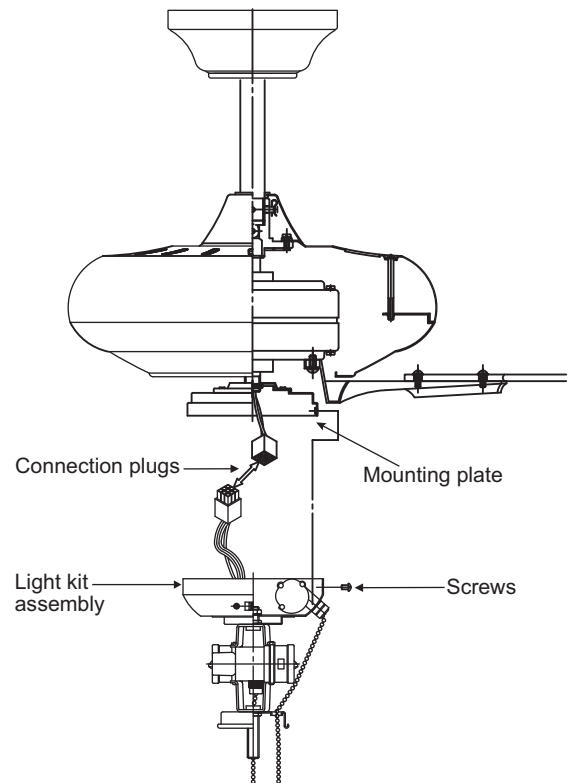

Figure 19
Step 2. While holding the light kit under your fan, snap together the wire connection plug. (Fig. 19)
Step 3. Install the light kit onto the mounting plate with 3 screws provided. (Fig. 19)